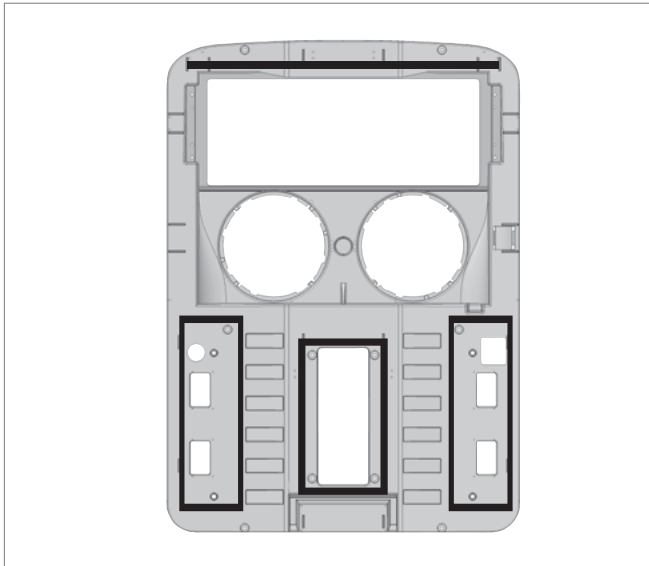

Fig. 10: Seal position for roof with curvature less or more than 5,200 mm
- ▶ Cut the seals to length, see Fig. 10